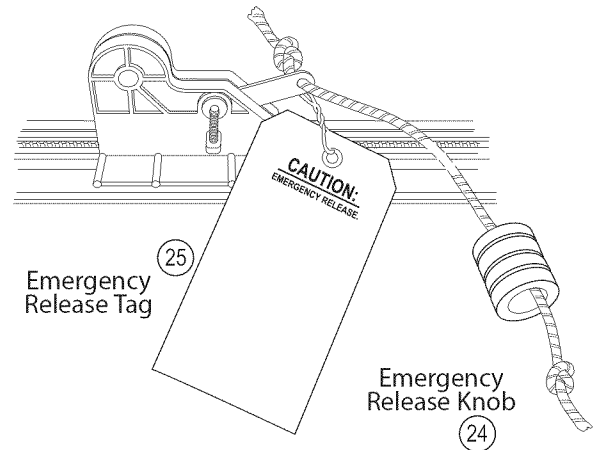

Figure 16 Attach Emergency Release Cord/Knob and Tag
- B** Thread opposite end of Cord through Knob and hole in Magnetic Carriage Assembly Release Lever (**Figure 16**).